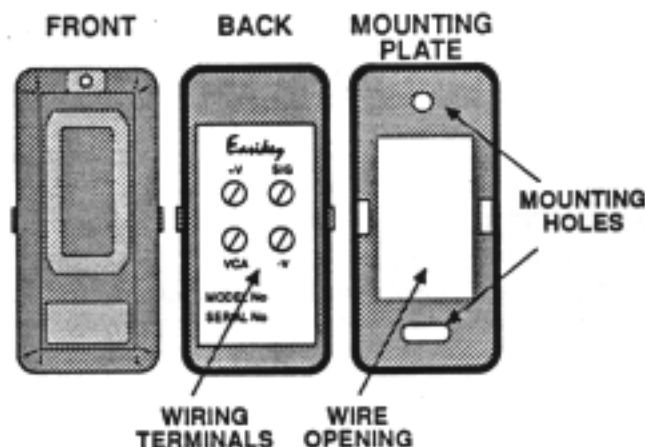

Figure 2: EK15 Mullion Reader
1. Using the mounting plate (see Figure 2) as a template, mark the location of the mounting holes on the wall.